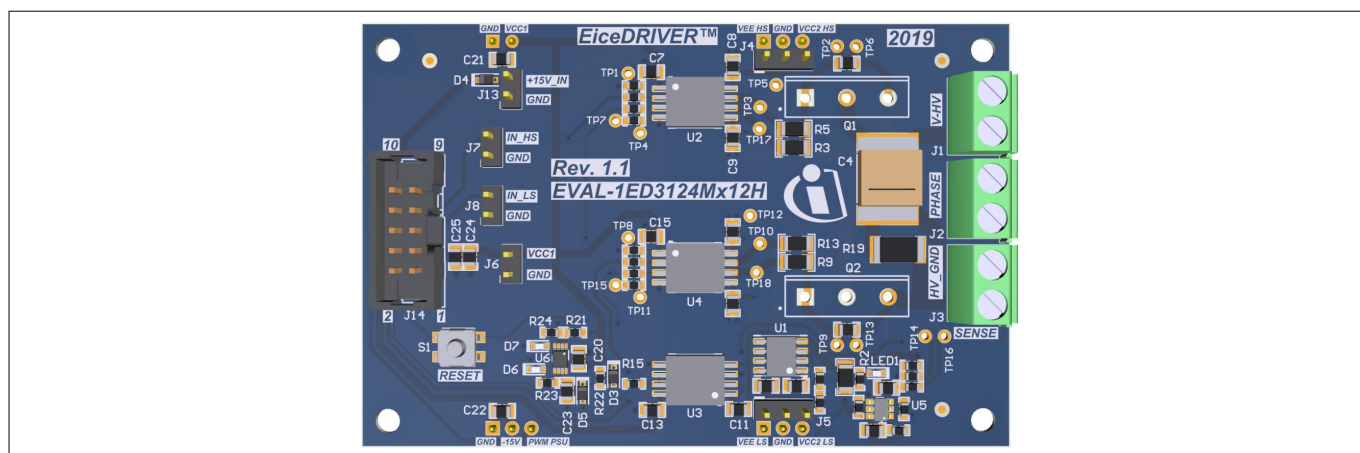

Figure 1 EVAL-1ED3124Mx12H top view
- Evaluation board in half-bridge configuration with two gate driver ICs to drive power switches such as IGBTs and SiC MOSFETs. The switch type can be freely chosen as seen in Figure 1